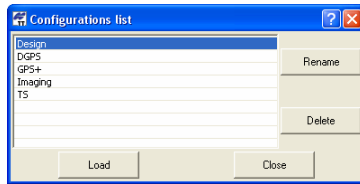

Figure 2-9. Configurations List
- Clicking the List configuration button displays the **Configuration list** dialog box (Figure 2-9). The default configurations differ in coordinate systems and precisions for Points, GPS Obs, TS Obs, DL Obs, and Loop Closure.